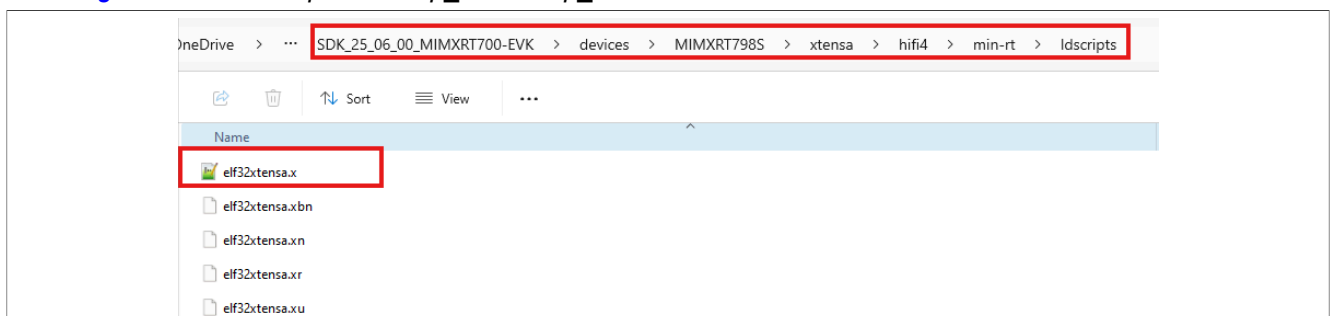

Figure 4. Modified linker file contents for SRAM mapping
- Figure 4 shows the path of 'dsp_naturedsp_hifi4' linker file.